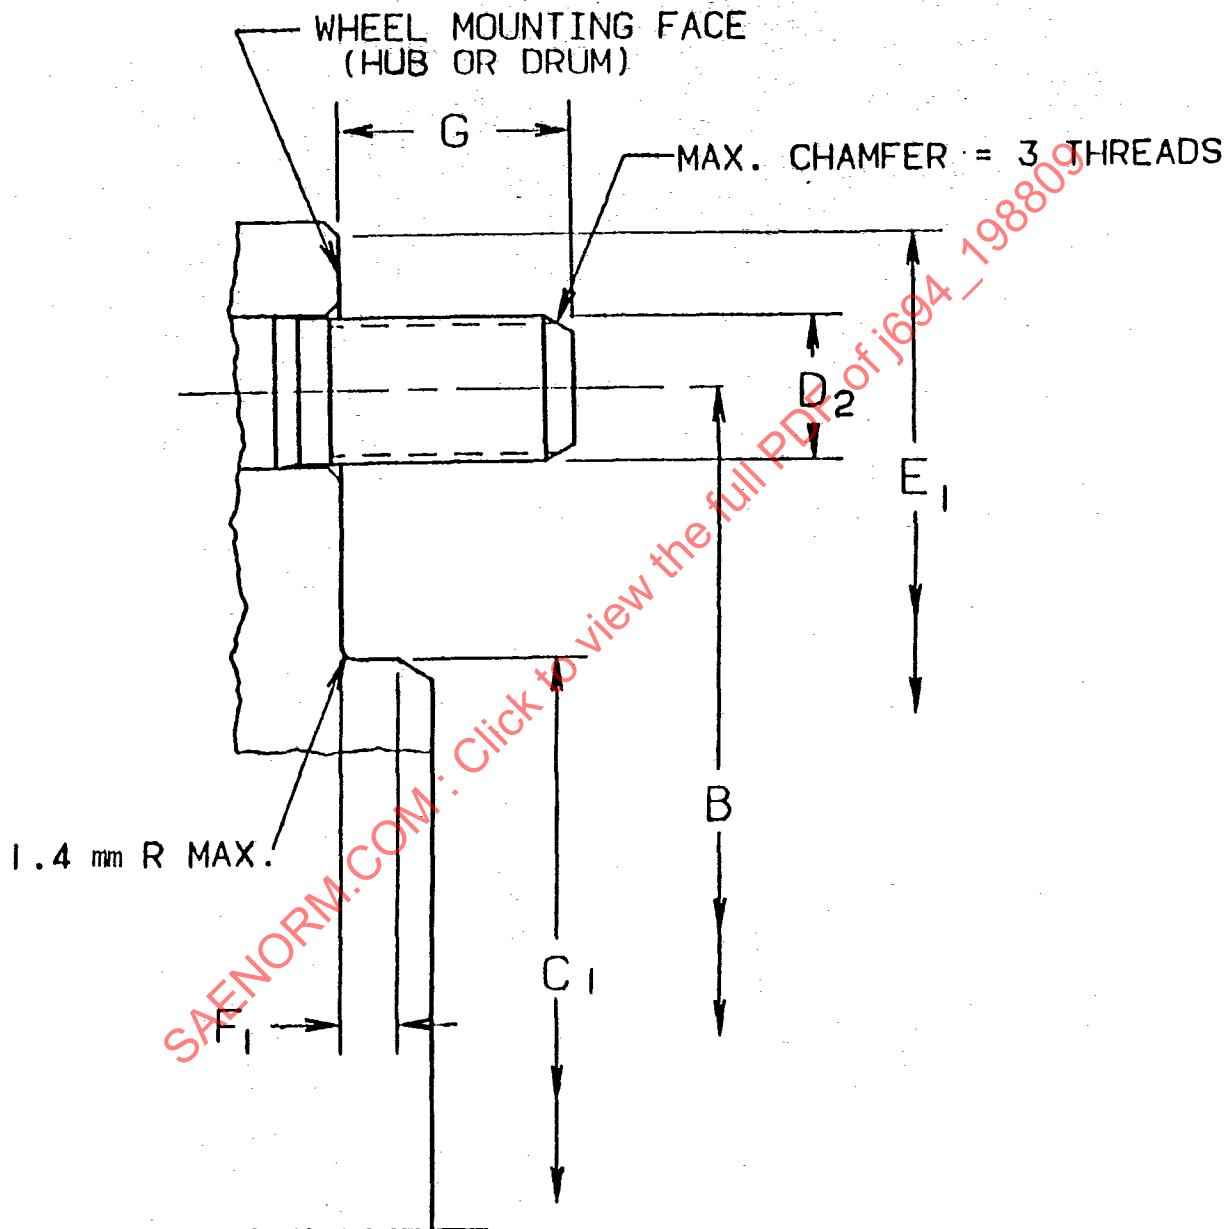

FIGURE 7 - Hub or Drum Interface Dimensions
**6.2.1 Definitions of Hub or Drum Interface Dimensions (Ref. Fig. 7):**